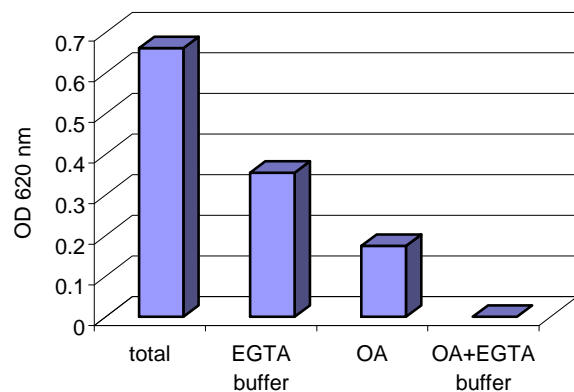

FIGURE 2. CELLULAR CaN ASSAY USING MOUSE BRAIN
2. Plot a graph analogous to Figure 2, below. Use either OD_{620nm} or phosphate released for the Y-axis.